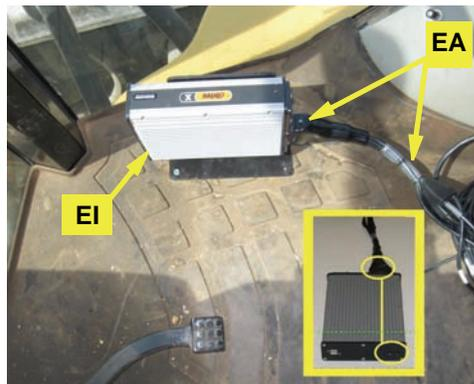

Figure 2a: ECU main cable connected (with inset)
- a. Connect main cable **EA** to **EI** using an Allen wrench to secure the cable. The **EA** connector only connects with the **EI** socket that is in line with the power and communications indicators at the opposite end of the ECU - the lower socket in this installation (Figure 2a).